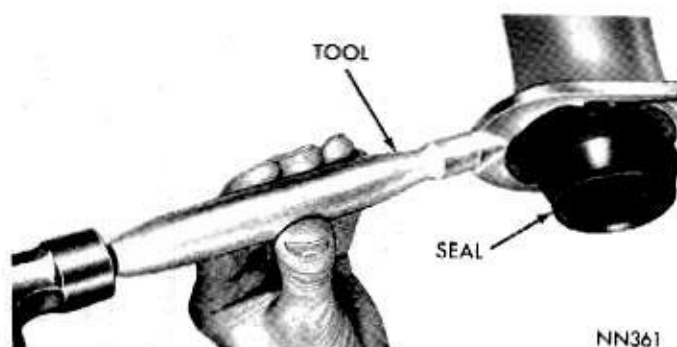

Fig. 11—Removing Extension Housing Yoke Seal
(3) Remove extension housing yoke seal (Fig. 11) with Tool C-3985.